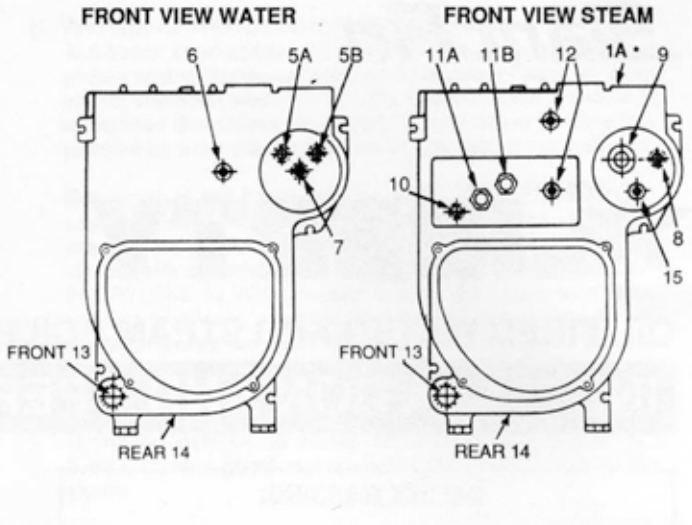

Figure 1
- II. WATER BOILER TRIM, see page 2 for tapping locations, and figures 1 and 2 for illustration of water boiler.